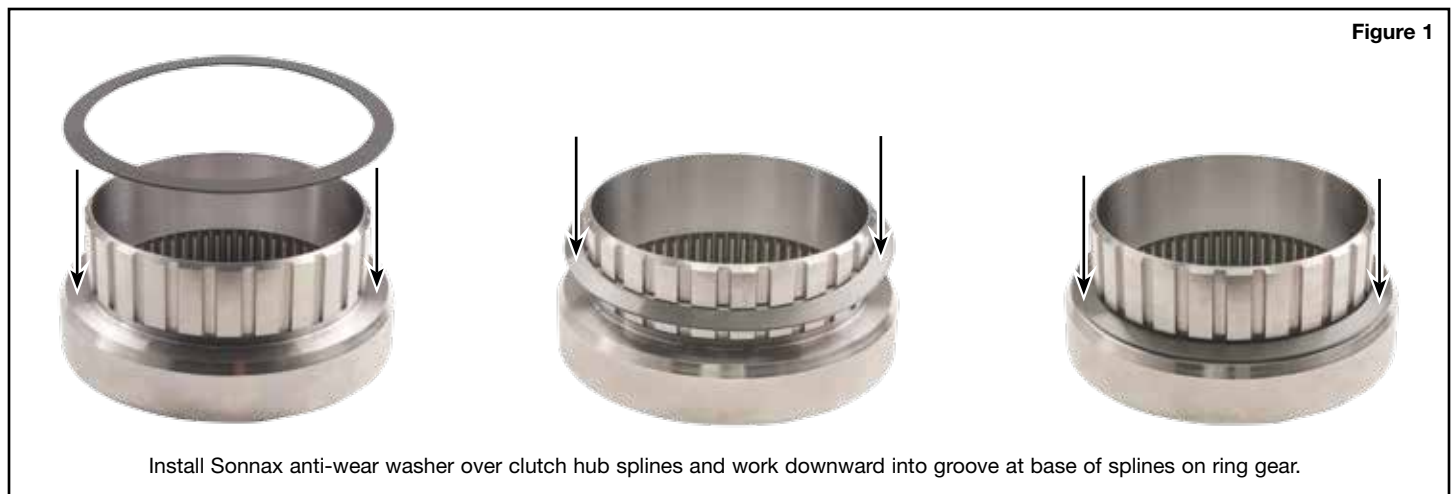

Figure 1
1. Carefully work Sonnax anti-wear washer over clutch hub splines and work downward into groove at base of splines (**Figure 1**).